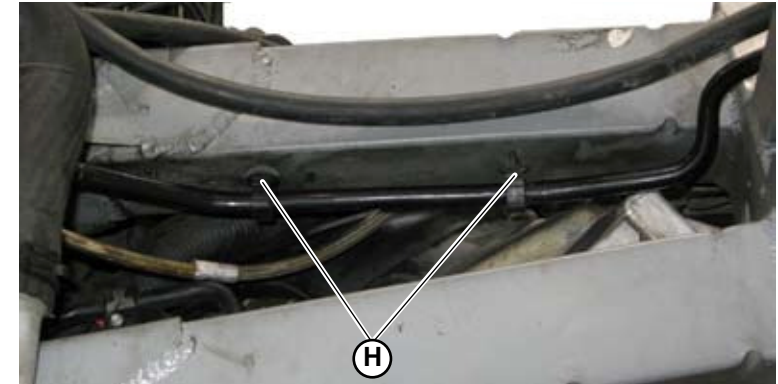

Fig.15
8. Position the two interlocking clamps (**H-Fig.15**).
9. Fasten the clamp to connect the pipe (**I-Fig.15**) to the brake vacuum pump.